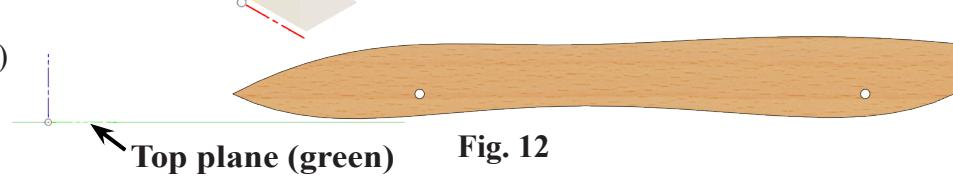

Fig. 12
Step 1. On the Solid tab **SOLID** click **Create Sketch** in the sketch area of toolbar and click **Top plane** in canvas, Fig. 12.